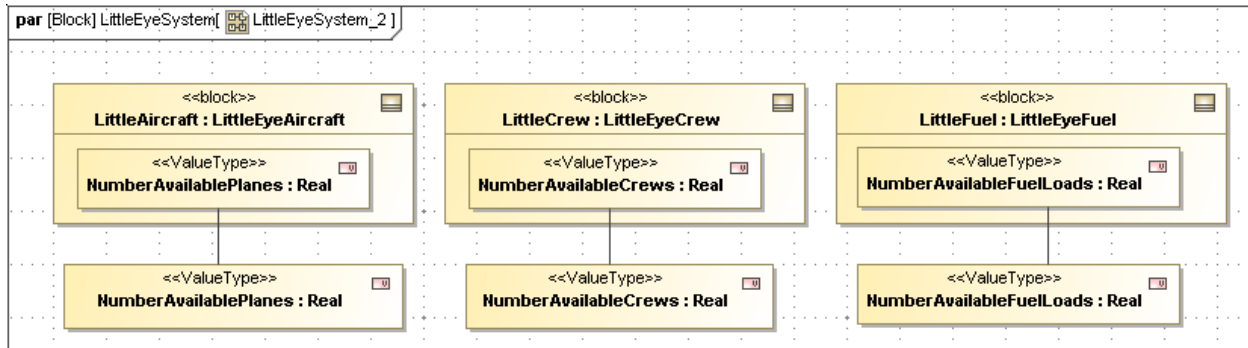

Figure 4.8 LittleEyeSystem_2 Parametric Diagram
- d. Using Edit Compartment and Presentation Options, display the internal structure of the three submodels as shown in Figure 4.8. Note that only the parameters necessary for wiring between the high-level model and the submodels are shown; all other parameters can remain hidden.
- e. Draw connectors between model properties as shown in Figure 4.8.